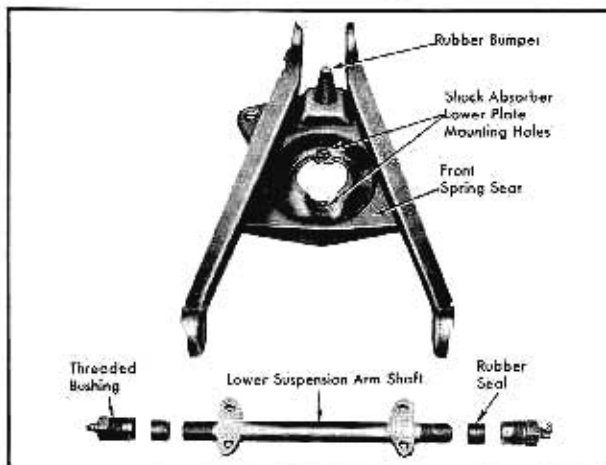

Fig. 6-22 Lower Suspension Arm - Disassembled
7. Place assembly on bench and remove threaded bushings, rubber seals, and shaft from arm, Fig. 6-22.